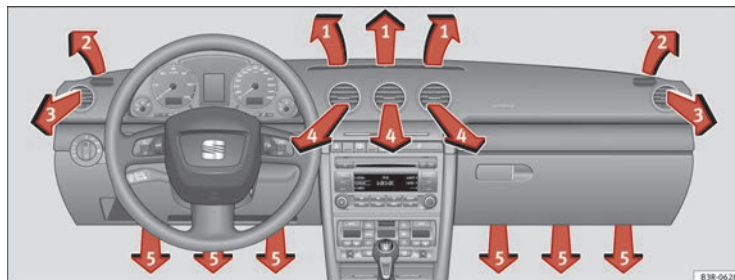

Fig. 141 Dash panel: Location of air outlets
The air outlets ⇒ Fig. 141 ③ and ④ can be operated as follows:
Each of the three buttons has a specific function. The numbers relate to the air outlets ⇒ Fig. 141.
After the ignition is switched off, the blower is supplied with electrical power from the sunroof. Please ensure that outlets 3 and 4 are open → Fig. 141 to ensure the best possible ventilation.